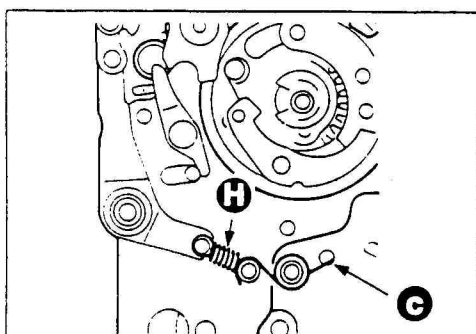

Fig.6
5. After hooking the spring ⑧, hook the spring ③ while pushing it down from above. (See Fig. 6.)